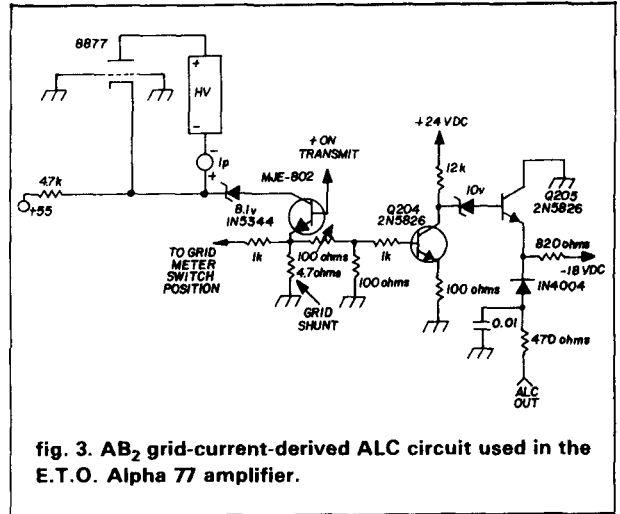

fig. 3. AB2 grid-current-derived ALC circuit used in the E.T.O. Alpha 77 amplifier.
E.T.O.\* uses this type of circuit. The Alpha 77 is a modern AB2 amplifier that has an ALC circuit designed to positively limit the 8877 grid current to 150-200 milliamperes (see fig. 3). Grid current is sensed, amplified, and inverted by the Q204, Q205 circuitry. In operation the negative ALC output voltage serves to limit the grid current to a preset, nondestructive limit even under conditions of mistuning, or worse, no plate voltage. In normal operation 150 milliamperes of grid current represents the upper limit of the tube's linear range.